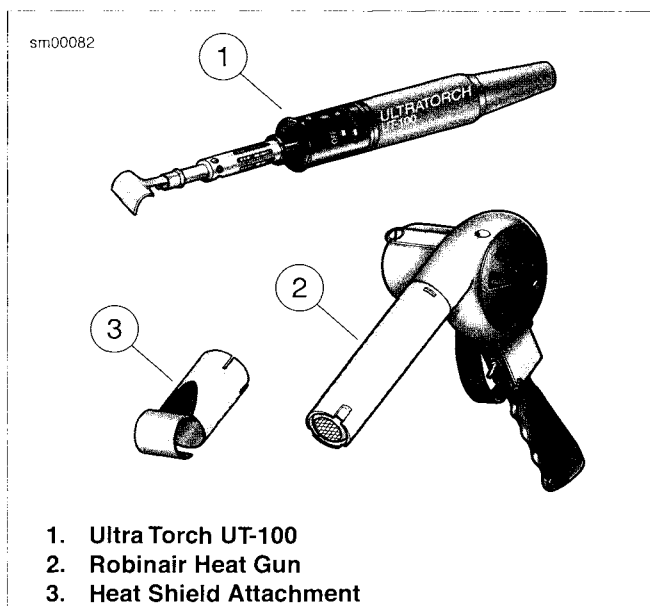

Figure 7-89. Radiant Heating Devices
6. See Figure 7-89. Using the ULTRA TORCH UT-100 (Part No. HD-39969) or ROBINAIR HEAT GUN (Part No. HD-25070) with HEAT SHIELD ATTACHMENT (Part No. HD-41183) or other suitable radiant heating device, uniformly heat the heat-shrink tubing to insulate and seal the soldered connections. Apply heat just until the meltable sealant exudes out both ends of tubing and it assumes a smooth cylindrical appearance.